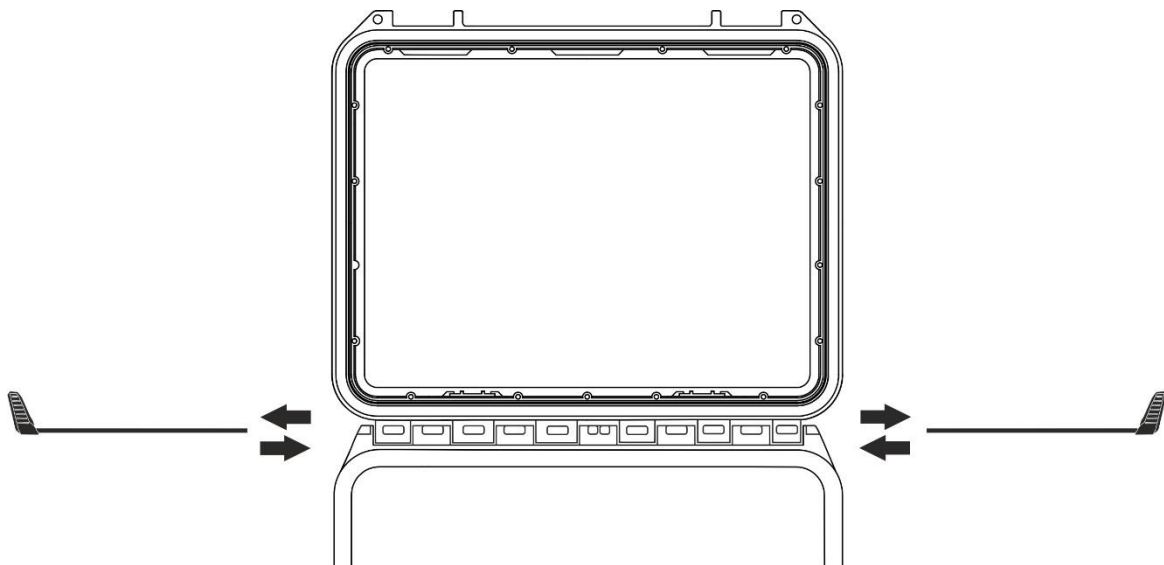

Fig. 6: Removing the cover from the instrument case - Step 2
2. Remove the two locking pins by pulling them outwards as shown in Fig. 6